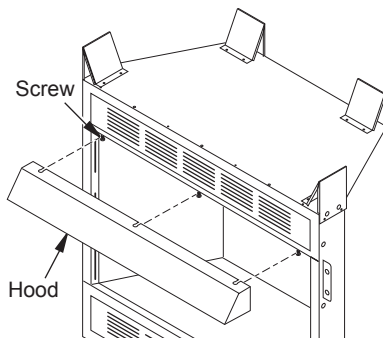

Figure 24 - Hood Placement (Model May Vary From Illustration)
1. Loosen screws inside top edge of firebox. Slide notches in hood over screws and tighten screws (see Figure 24).